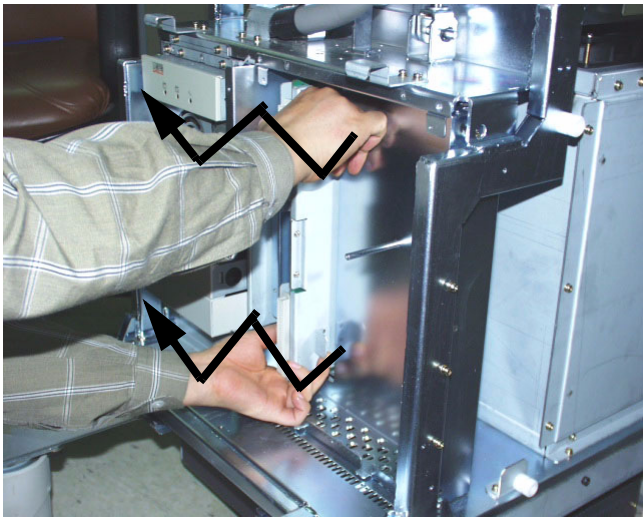

Figure 8-92 Pulling Out LMT Board
- 3.) Pull the LMT Board out. Refer to Figure 8-92.